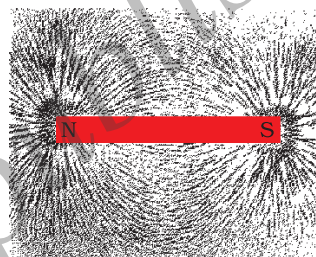

Figure 13.2
- Sprinkle some iron filings uniformly around the bar magnet (Fig. 13.2). A salt-sprinkler may be used for this purpose.
The iron filings arrange themselves in a pattern as shown Fig. 13.2. Why do the iron filings arrange in such a pattern? What does this pattern demonstrate? The magnet exerts its influence in the region surrounding it. Therefore the iron filings experience a force. The force thus exerted makes iron filings to arrange in a pattern. The region surrounding a magnet, in which the force of the magnet can be detected, is said to have a magnetic field. The lines along which the iron filings align themselves represent magnetic field lines.